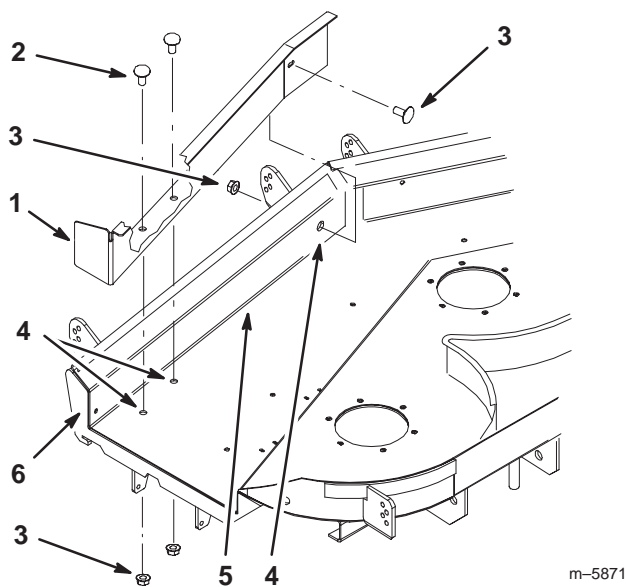

Figure 14
2. Place the front tunnel baffle against the the front wall of the discharge tunnel. (Fig. 14).
5. Using the baffle as a template, mark the hole locations in the center of the slots. Do this at all three holes in the front tunnel baffle (Fig. 14).
6. Remove the baffle and drill two, 11/32 in. diameter, holes into the top of the discharge tunnel (Fig. 14).
7. Drill one, 11/32 in. diameter, hole into the side of the discharge tunnel (Fig. 14).
8. Install the front tunnel baffle with 3 carriage bolts (5/16 x 5/8 in.) and 3 flange nuts (5/16 in.) (Fig. 14).